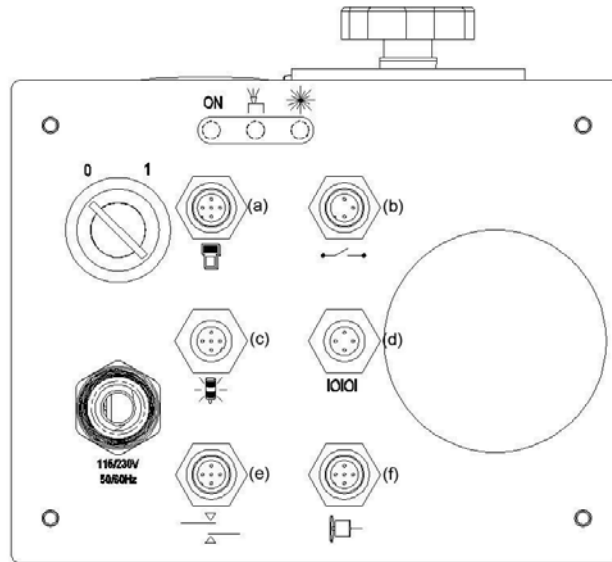

Figure 4 - Back Panel View of SmartLase 110S
2.1 Explanation of Controls and Connections (Figure 4)
1. Turn the system on using the key switch located on the back panel of the SmartLase (**Figure 4**).